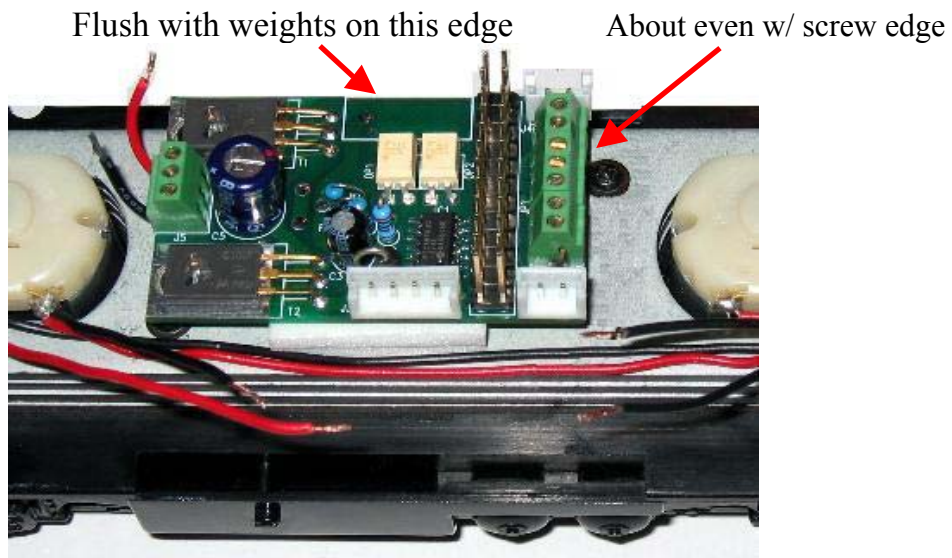

Figure 3
2. Looking at figure 3, attach the Beep Commander circuit board. Take your time, and position roughly centered between the motors. Keep flush on the "top" edge – same as the double stick tape.